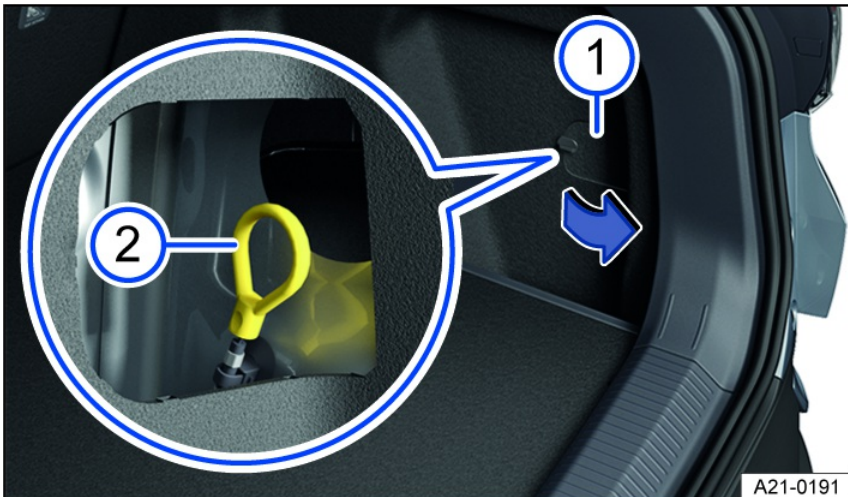

Fig. 134 In the bottom right luggage compartment trim: Emergency release of the charging connector.
On the bottom right-hand side of the luggage compartment, there is a flap with a lock *fig. 134*.
6. Pull the manual emergency release loop *fig. 134*.